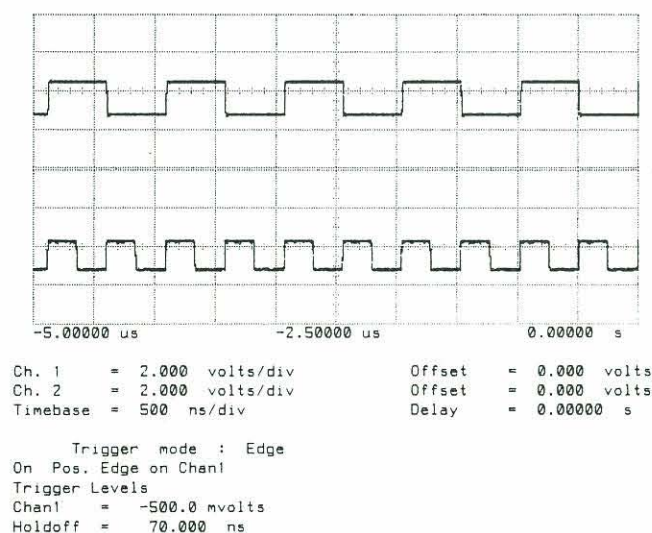

Figure 8-4 Binary Clock and Data Outputs (ECL)
7. Set the HP 3784A to **Data Out [BINARY][ECL]** and check the signal levels on the Oscilloscope are as shown in Figure 8-4 , typically  $V_L = 1.85V$  and  $V_H = -0.55V$ .